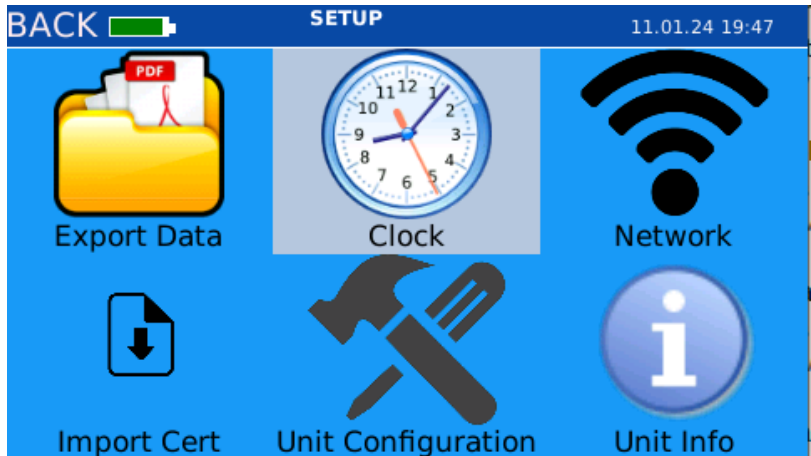

Figure 56. Select "Clock"
- 1. In the Setup menu, select **Clock** (Figure 56).